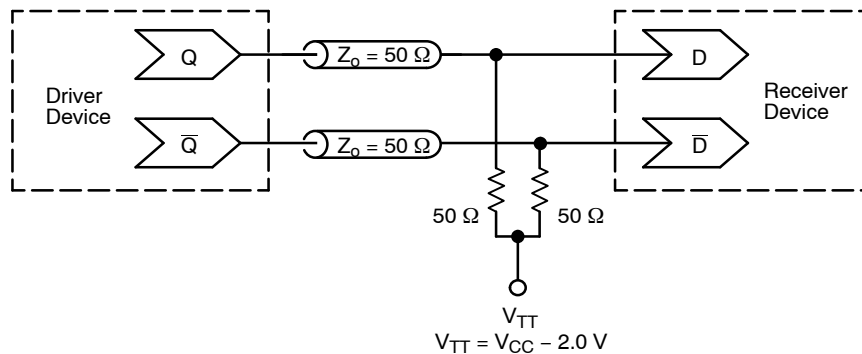

Figure 10. Typical Termination for Output Driver and Device Evaluation (See Application Note AND8020/D – Termination of ECL Logic Devices)
2. All loading with $50\ \Omega$ to $V_{CC} - 2.0\text{ V}$ (see Figure 10).
2. All loading with 50 Ω to $V_{CC} - 2.0\text{ V}$ (see Figure 10).
1. Measured using a 750 mV source, 50% duty cycle clock source. All loading with $50\ \Omega$ to $V_{CC} - 2.0\text{ V}$ (see Figure 10).